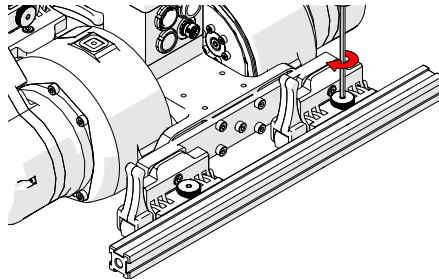

Fig. 54 - Secure with driver
4. Secure by tightening knobs on both noses of pivot mounts (Fig. 54).